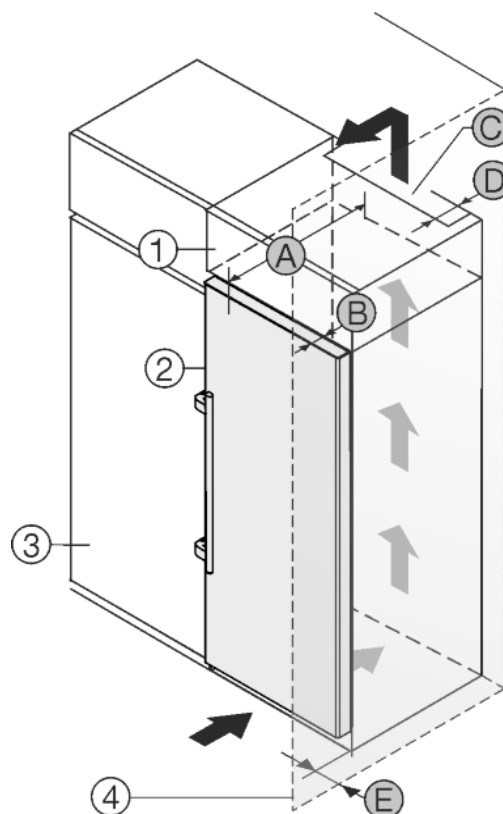

Fig. 20
The appliance can be built into kitchen units. A top cupboard Fig. 20 (2) can be added above the appliance in order to bring the appliance Fig. 20 (1) up to the height of the fitted kitchen units.
The appliance can be installed right next to the kitchen cabinet Fig. 20 (3). The appliance must protrude by depth Fig. 20 (B) from the front of the cabinet so that the doors can be opened fully. The appliance may protrude further depending on the depth of the kitchen cabinets and whether wall spacers are used.
- At the back of the top cabinet, there must be an air outlet shaft with depth Fig. 20 (D), spanning the entire width.
- The ventilation shaft Fig. 20 (C) must be observed under the ceiling.
If the appliance is installed with the hinges next to a wall *Fig. 20 (4)*, the distance *Fig. 20 (E)* between the appliance and the wall must be observed. This is how far the handle protrudes when the door is open.